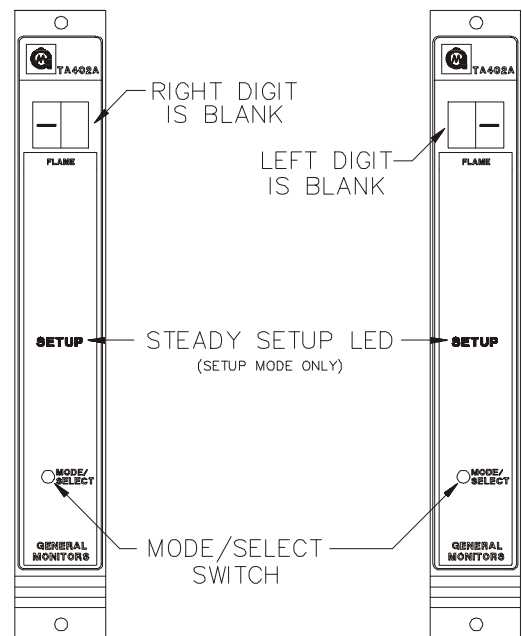

Figure 14
- **This option applies to the Setup Mode only:** If the password option is enabled, the right digit of the display will be blank and a bar (-) will appear in the left digit on the display (figure 14). Press the Mode/Select switch until the desired number is displayed, then wait about five seconds. The left digit of the display will be blank and a bar (-) will appear in the right digit on the display (figure 14). Press the Mode/Select switch until the desired number is displayed, then wait about five seconds. If the password is correct the user will proceed with the inhibit option. If the password is incorrect the user will not be able to proceed and unit will return to the normal operating mode. Once in the operating mode the user may attempt to re-enter the Setup Mode. The factory default password is 00.